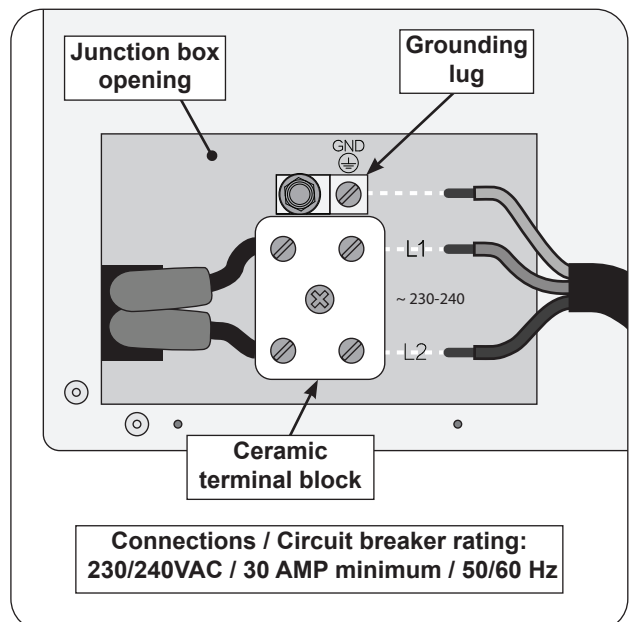

Fig. 25-3 Wire connection diagram
3. Connect the wires to the ceramic terminal block. Reference the wiring information below and Fig. 25-3.